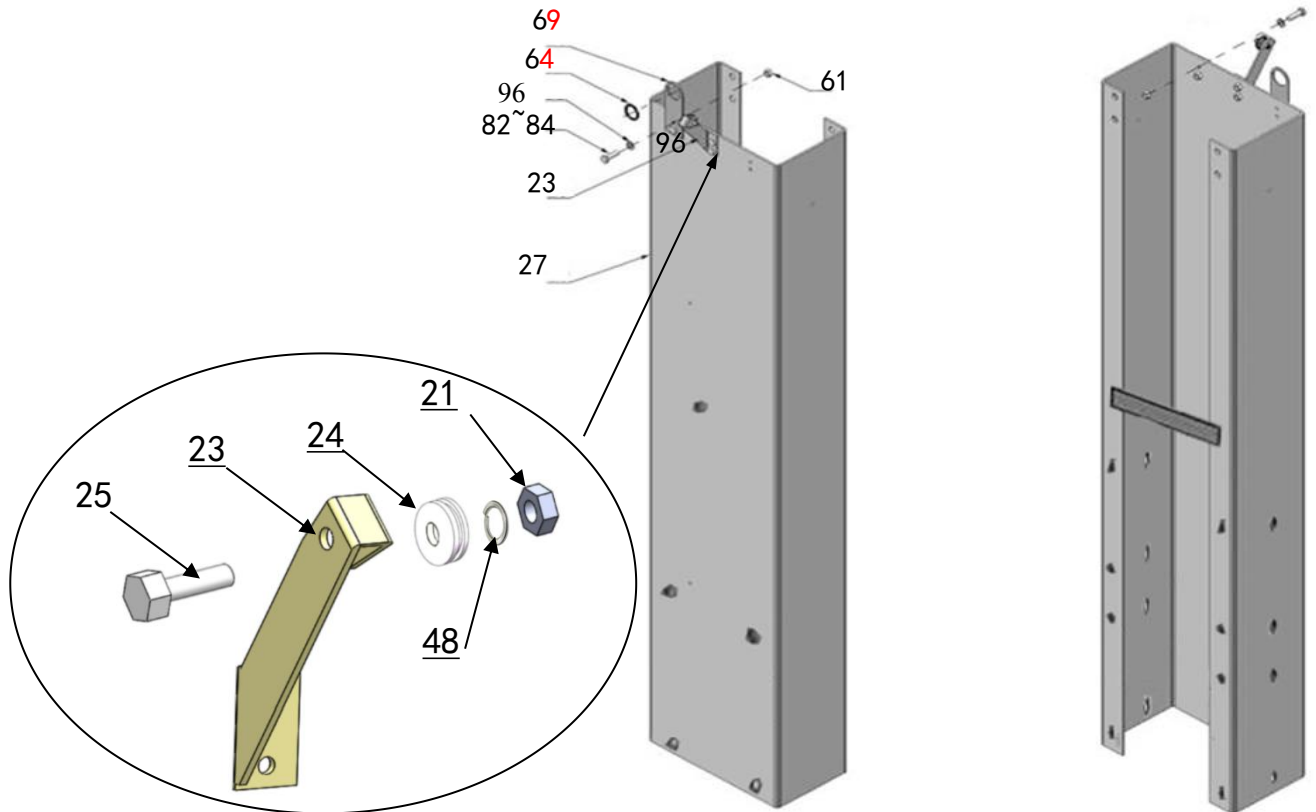

Fig. 16
D. Install parts of outer column. (See Fig. 16).